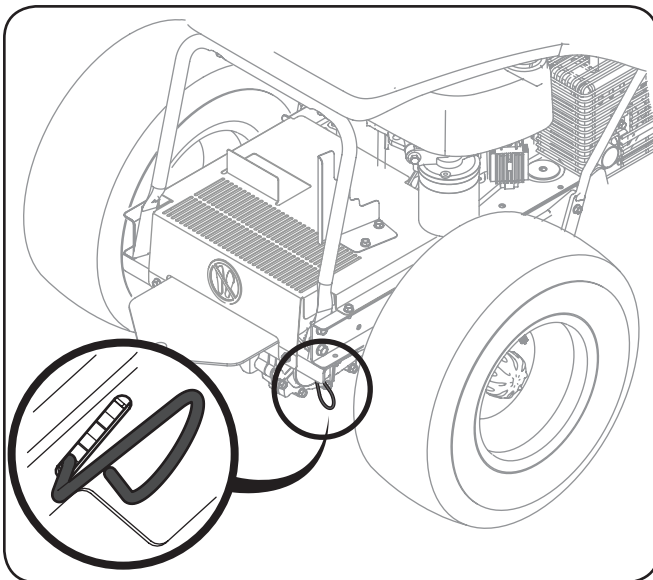

Figure 3-1
1. Engage the transmission bypass rod to move the tractor manually without starting it. The transmission bypass rod is located on the inside of the right tire near the rear of the tractor. Engage the bypass rod by pulling out and down. See Figure 3-1.
2. Disengage the bypass rod by lifting up and allowing the rod to move back in after moving the tractor. See Figure 3-1.